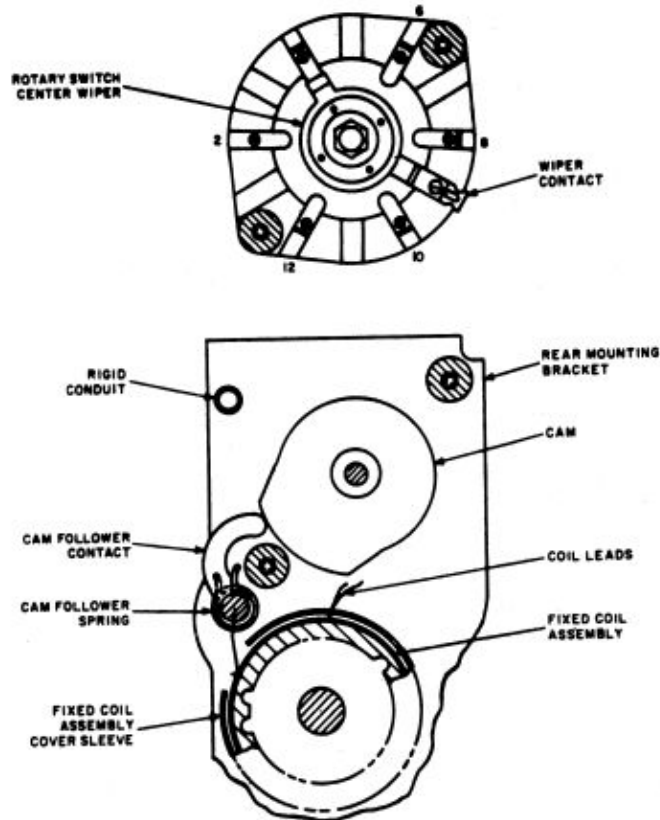

FIG 37 - ANTENNA COUPLER ASSEMBLY 2A3, SWITCH-COIL ASSEMBLY DETAILS
- h. Install the two rotary switch wafers. Position each wafer so that the side of the wafer shown in fig 37 is towards the front mounting bracket, and so that the centre wiper is in the position shown. Secure each wafer section using the original hardware and insulated spacers.
- k. Install the cam follower contact as shown in fig 37.
- m. Carefully position the cam as shown in fig 37, and so that the cam follower tracks properly on the cam. Tighten the set screws.
n. Carefully position the rotary switch rotors so that the wiper contact is in the position shown in fig 37, and so that the contacts mesh properly. Tighten the set screws.
s. Apply cement to the rear end of the fixed coil assembly and install it on the rear mounting bracket, in the position shown in fig 37.
t. Install the cam follower contact and spring as shown in fig 37. Ensure that the spring tension holds the cam follower against the cam.